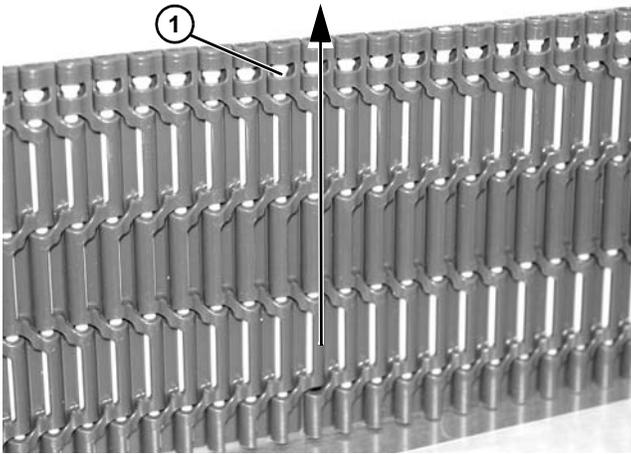

Figure 123
Note that head of pin (Figure 123, item 1) should be removed in direction shown.